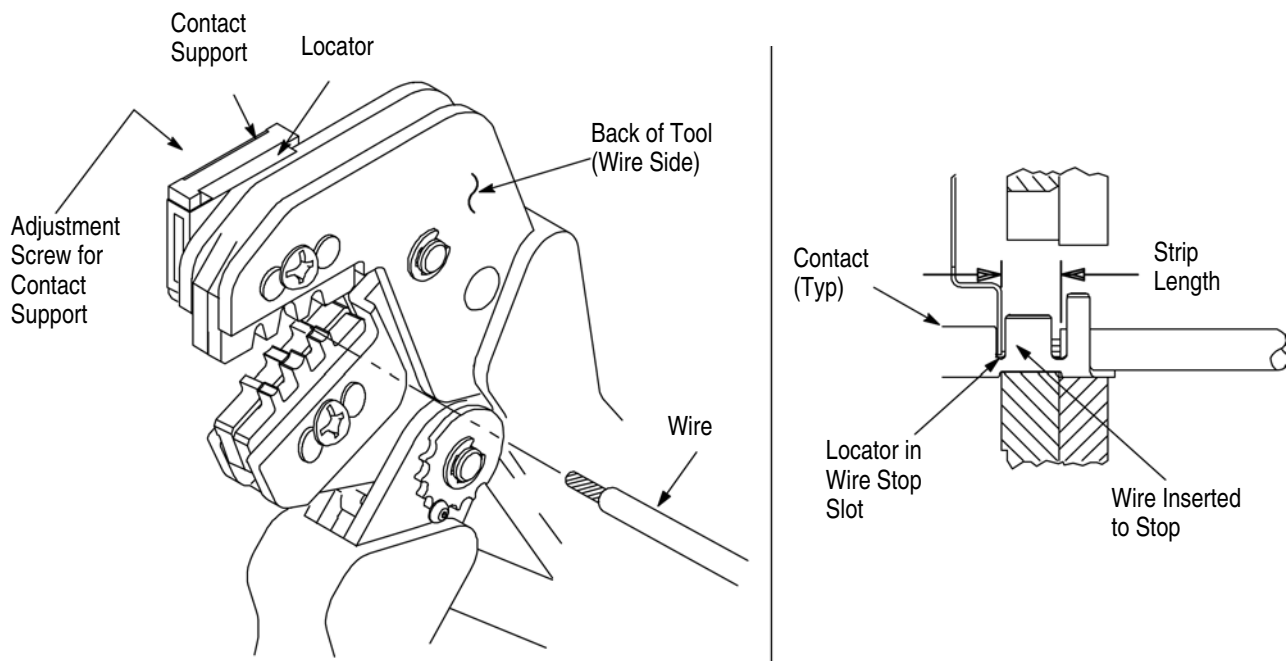

Figure 3
4. CONTACT SUPPORT ADJUSTMENT (Figure 3)
Refer to the table in Figure 1 and select wire of the specified size and insulation diameter. Strip the wire to the length indicated in Figure 1, taking care not to nick or cut wire strands. Select an applicable contact and identify the appropriate crimp section according to the wire size markings on the tool. Refer to Figure 3 and proceed as follows:
3. Position the contact so that the mating end of the contact is on the locator side of the tool, and so that the open "U" of the wire and insulation barrels must face the top of the tool. Place the contact up into the nest so that the movable locator drops into the slot in the contact. Refer to Figure 3. Butt the front end of the wire barrel against the movable locator.
5. Insert stripped wire into contact insulation and wire barrels until it is butted against the wire stop, as shown in Figure 3.
NOTE The crimped contact may stick in the crimping area, but the contact can be easily removed by pushing downward on the top of the locator (see Figure 3)